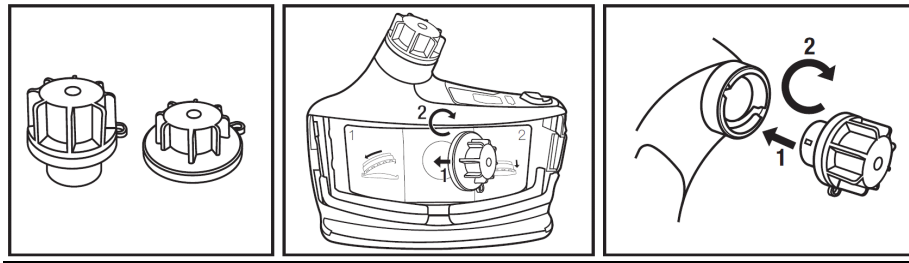

Figure 1. Installing the inlet and outlet plugs from the TR-653 Cleaning and Storage Kit
- If submersion cleaning is desired, remove the filter/cartridge and breathing tube. To minimize material falling onto the motor/blower, remove the filter/cartridge and breathing tube while each of those connections are facing downward. Attach the air inlet and air outlet cleaning and storage plugs (3M™ Cleaning and Storage Kit TR-653) into the TR-600 (see Fig 1). The TR-600 can now be rinsed under running water, submersed in water, or put in a respirator washer for further cleaning. Water temperature should not exceed 122°F (50°C). Blowers which have been dropped or damaged should not be immersed or put into a respirator washer due to potential water ingress, and subsequent damage to the system.